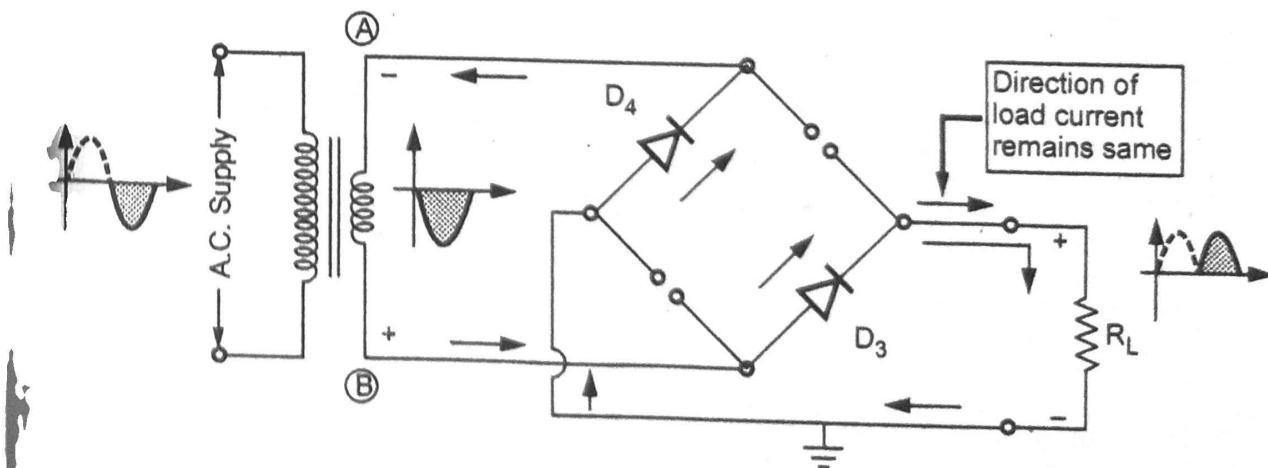

Fig. Q.27.3 Current flow during negative half cycle
- In the next half cycle, when the polarity of ac voltage reverses hence point B becomes positive diodes D_3 and D_4 are forward biased, while D_1 and D_2 reverse biased. Now the diodes D_3 and D_4 conduct in series with the load and the current flows as shown in Fig. Q.27.3.